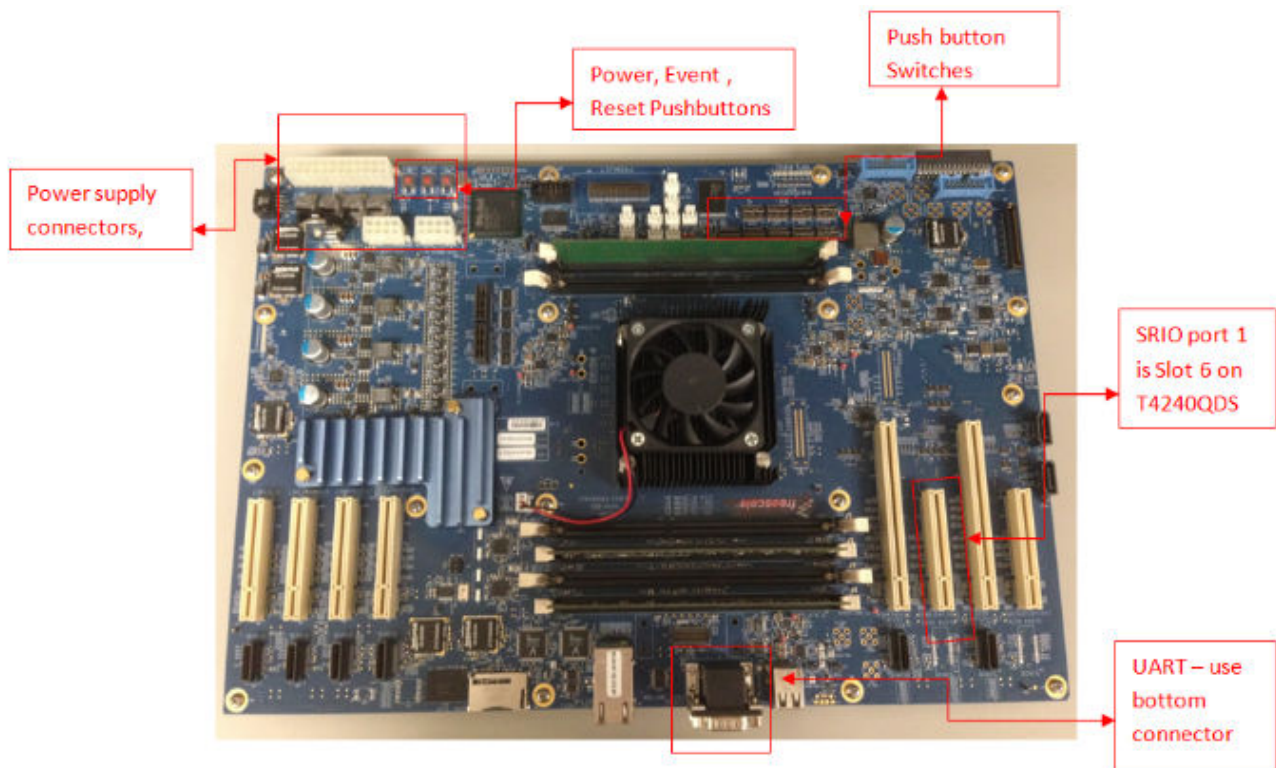

Figure 2. T4240QDS board showing connections
2. Connect each serial cable to bottom UART connector on both boards as shown in Figure 2.
7. Set switch 6 on T4204QDS to “00001111”. Figure 2 shows the location of the switches on the board.